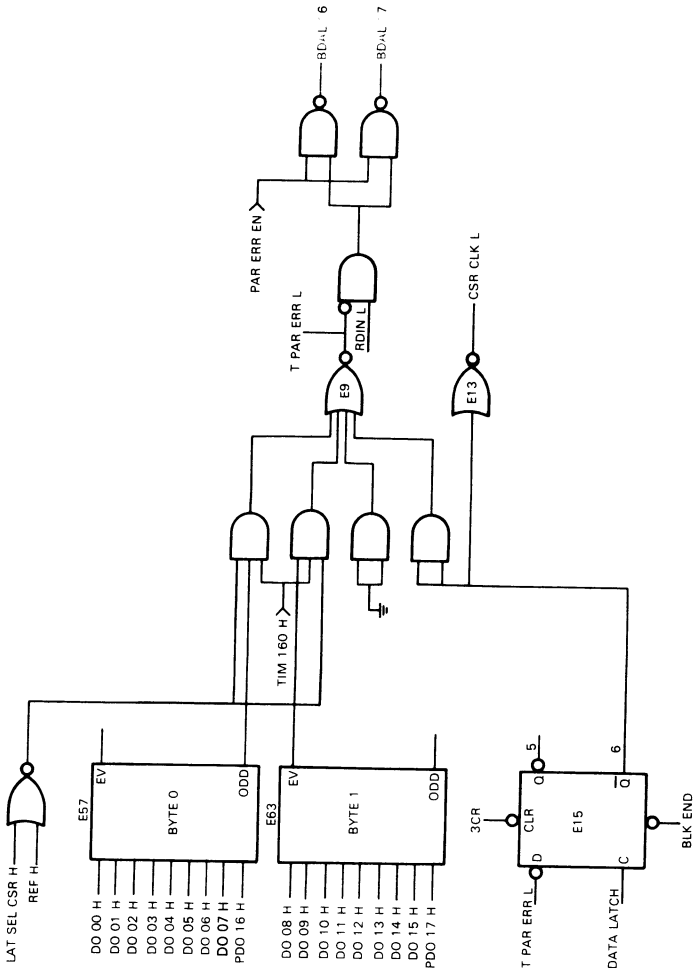

Figure 23-9 Parity Checkers
The MSV11-P memory modules detect parity errors, report parity errors, and save the address of the parity error in the CSR register. Parity detection logic always expects byte 0 to have an even number of one bits and byte 1 to have an odd number of one bits. If this does not happen, T PAR ERR L is generated (Figure 23-9).
- When the data is latched, the signal CSR CLK is generated if there is a parity error (Figure 23-9).